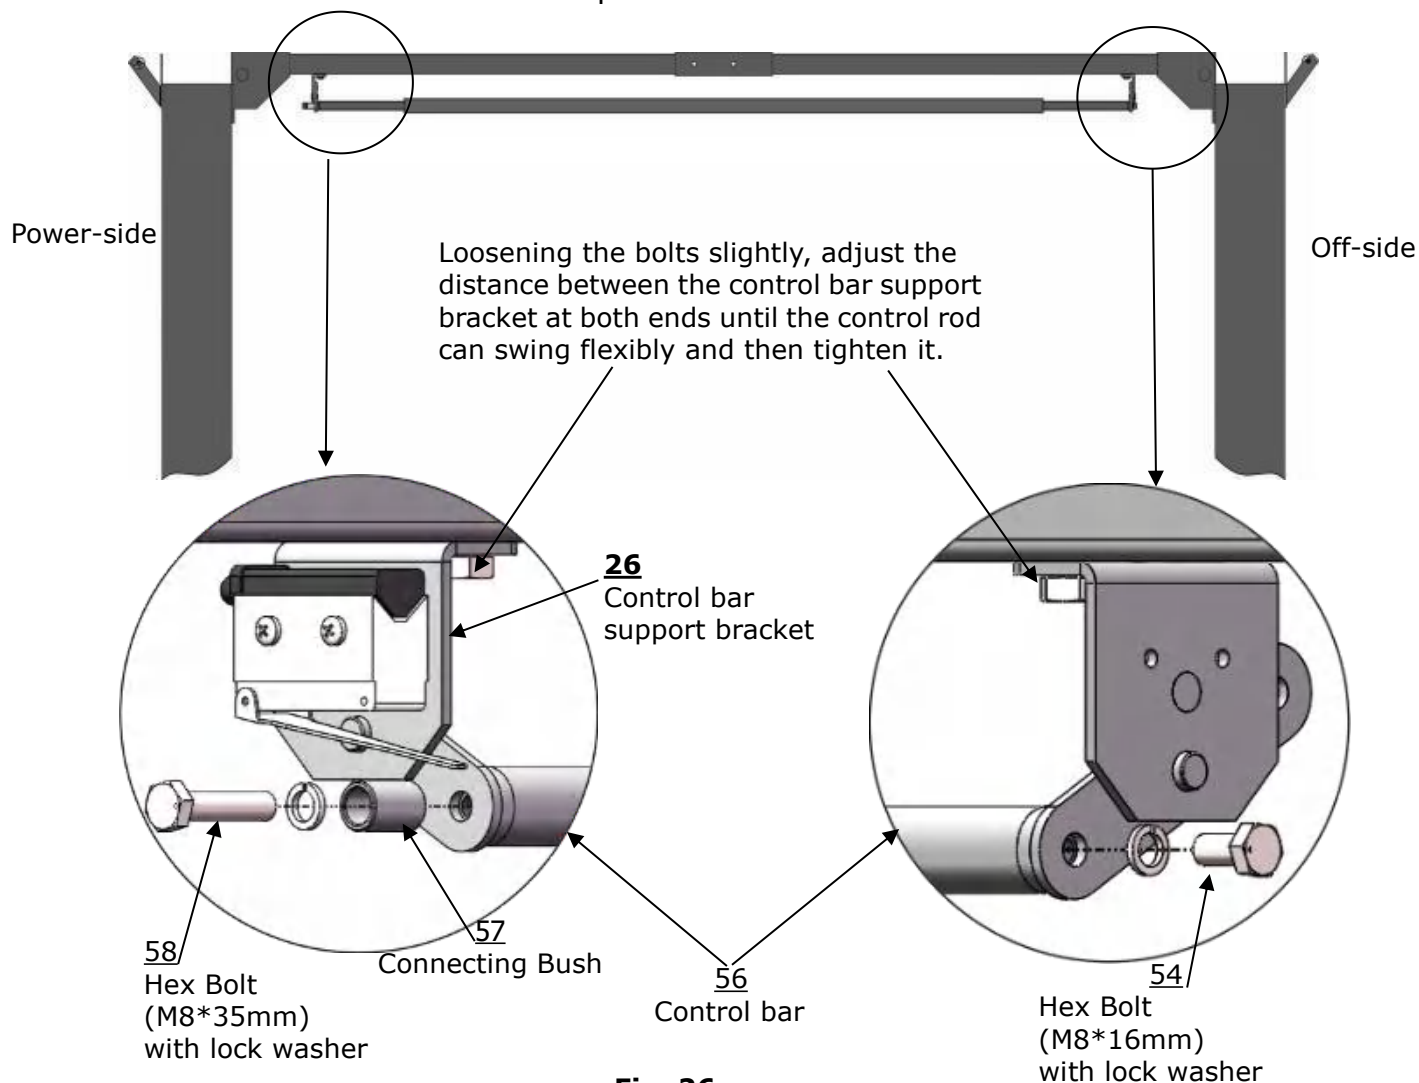

Fig. 26
I. Install control bar for limit switch (See Fig. 26)